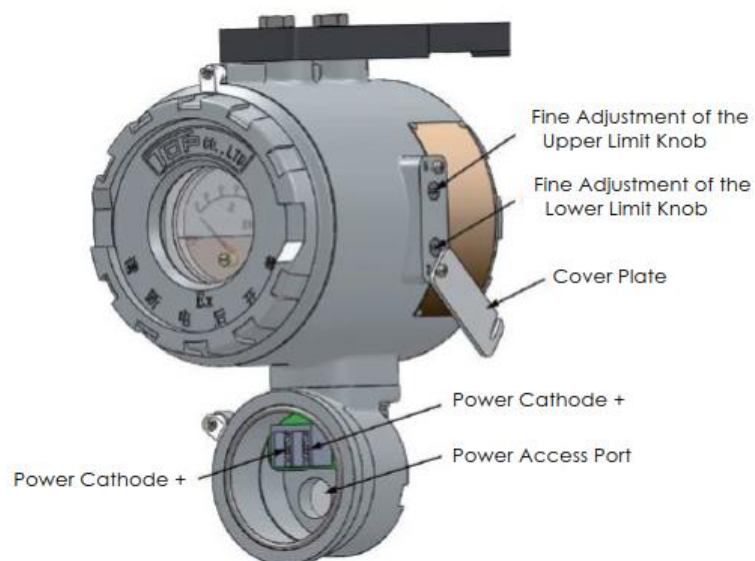
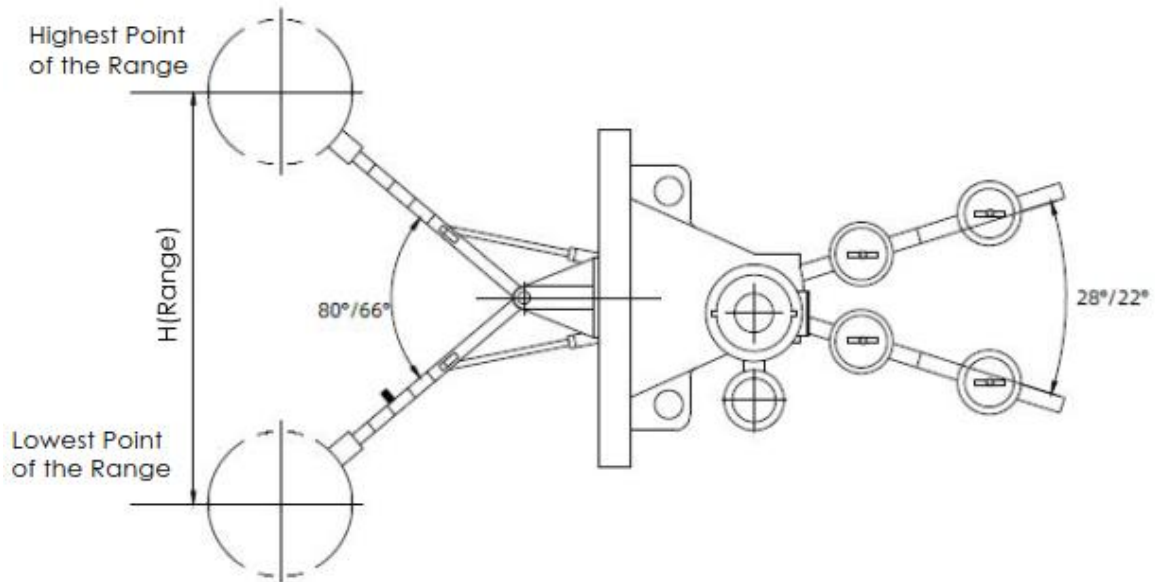

Figure 11 Electrical Wiring
Figure 12 Bench Debugging - Large Corner
Unscrew the front cover of the instrument, introduce the transmission wire through the lead device into the transmitter meter head (note that the lead wire should not break the line in the table), and fix the positive and negative poles of the wire in the position marked with "+" and "-" (see figure 11). But pay attention not to connect the wrong polarity, after the check without error can be energized.
7.2.2 On-site debugging method (see Figure 11, Figure 12)